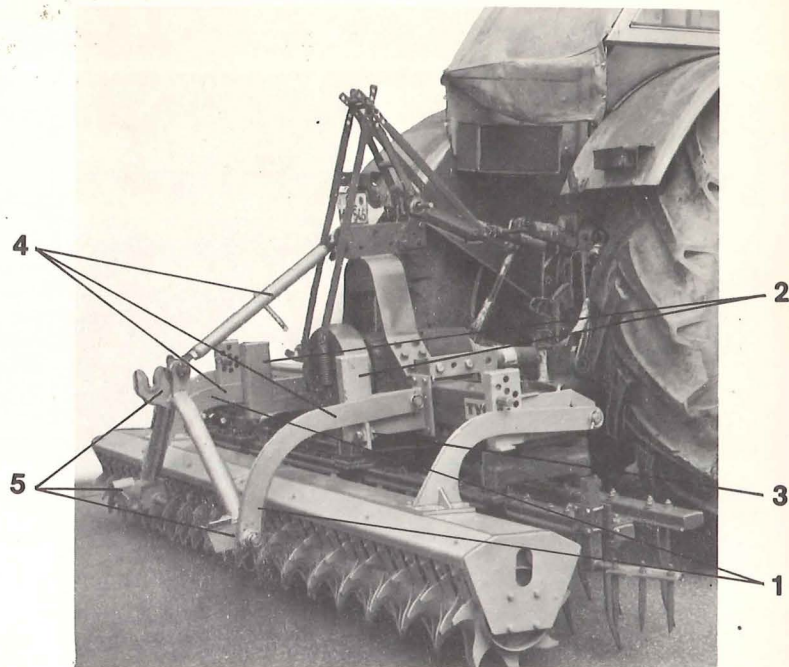
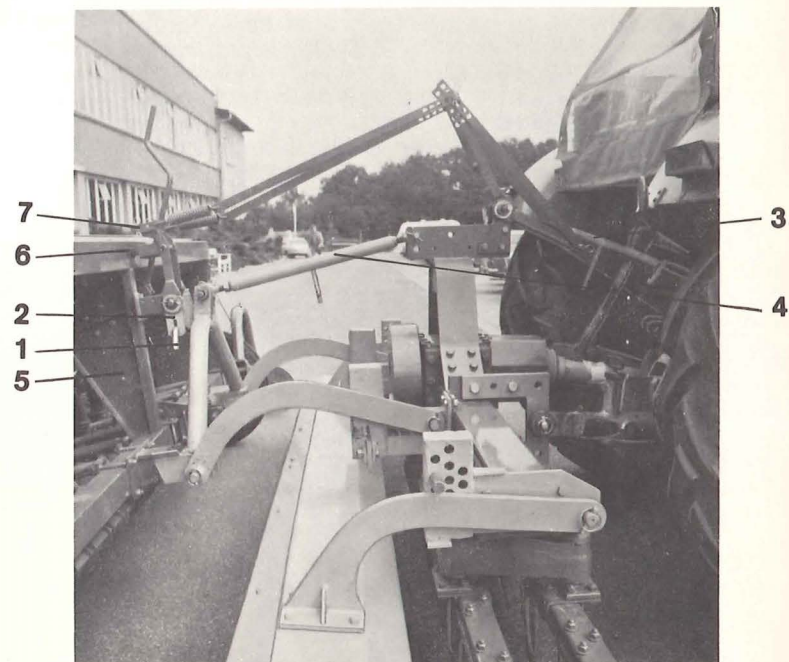

Fig. 9
Fig. 10
3. For connecting the power harrow **and** packer roller to the seed drill D 7, bolt the extended connecting parts to the rear of the power harrow in accordance with Fig. 9. It must be ensured that the lower links (Fig. 9/1) are outside the supporting beams (Fig. 9/2). The rest (Fig. 9/3) of the lower links should be set, depending on the tyres of the seed drill, so that it can be moved backwards with the hitch pin-catchers of the quick-action coupling under the three-point link pins of the seed drill.
Connect the AMAZONE quick-action coupling, which is supplied as standard with the seed drill D 7 Super and as a special accessory with the seed drills D 7 Standard and D 7 Junior, to the three links (Fig. 9/4) of the extended coupling parts. To connect the power harrow to the seed drill, the tractor with the connected power harrow and packer roller are moved back until the hitch pins of the quick-action coupling (Fig. 9/5) are below the three-point link bolts of the seed drill. Now slowly raise the power harrow and the packer roller by operating the tractor hydraulics until all three hitch pins of the quick-action coupling grip the three link pins of the seed drill. Finally, lock the quick-action coupling by inserting the securing bolts (Fig. 10/1) below the upper hitch pin catcher into the two securing brackets (Fig. 10/2).
4. The power harrow and packer roller and particularly the seed drill must be attached horizontally behind the tractor. The power harrow is brought into the horizontal position by turning the upper link on the tractor (Fig. 10/3) and the seed drill by turning the upper link between the power harrow and the seed drill (Fig. 10/4). It must be ensured that the arrow (pendulum) Fig. 10/5 on the seed drill is pointing straight down on to the top of the triangular opening.
7. If the seed drill is equipped with the automatic changeover (Fig. 10/6), a special transmitting extension lever will be necessary for the combination of power harrow and packer roller with the seed drill D 7. (See Special Accessories for AMAZONE D 7 seed drill). This is mounted on the power harrow at the upper link point in accordance with Fig. 10. The angle piece (Fig. 10/7) on the automatic changeover of the seed drill D 7 must be mounted, contrary to the normal arrangement, pointing to the rear for the switching operation with the power harrow.